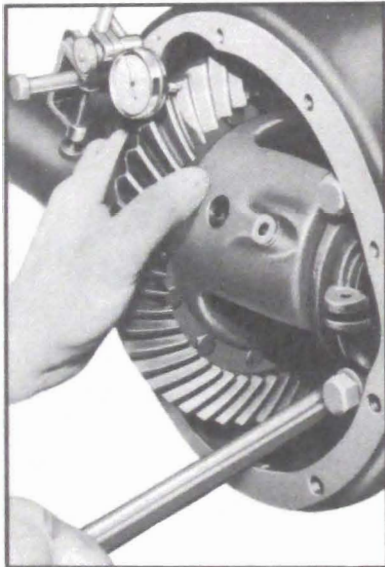

Figure 5-29—Checking Back Lash with Dial Indicator
8. Mount dial indicator as shown in figure 5-29. Use a small button on indicator stem so that contact can be made off the edge of tooth. Set dial indicator so that indicator stem is as nearly in line with gear rotation as possible. If stem bears against edge of tooth, or stem is at considerable angle to the line of gear rotation, a false indication of backlash will be obtained.